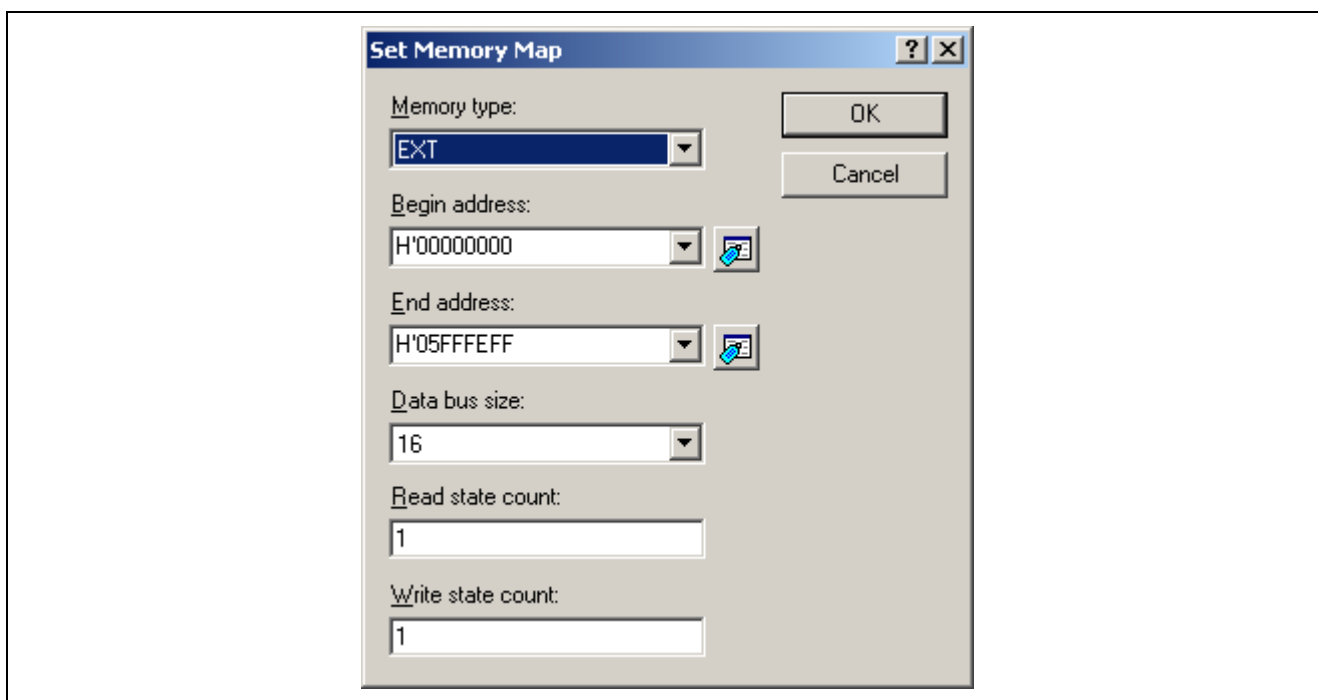

Figure 1.4 [Set Memory Map] Dialog Box
-  Add items to [Memory Map]. Clicking on this button opens the [Set Memory Map] dialog box (figure 1.4), in which an item can be added to the map.
-  Modify an item in [Memory Map]. Select the item to be modified in the list box and click on this button. This opens the [Set Memory Map] dialog box (figure 1.4), in which the selected memory map item can be modified.